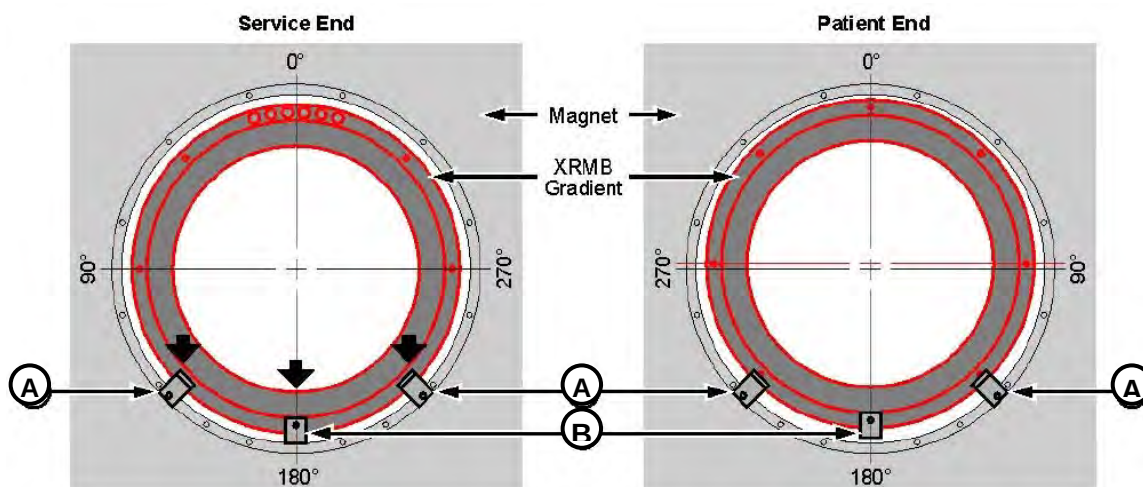

Figure 55 – Installing the Lower Wedges
- S. Apply red loctite (#271) to 135° and 225° hole in the patient-end magnet flange. Attach the 135° and 225° wedge (5154485) to the magnet flange using 1 (one) M10x30 brass bolt (5110638-64) and 2 (two) G10 flat washers (5146169). Tighten the brass screws firmly to secure the wedges. **(Fig 55, A)**
- T. Apply red loctite (#271) to 180° hole in XRMB coil. Attach the 180° wedge (5155280) to the magnet flange using 1 (one) M10x30 brass bolt (5110638-64) and 1 (one) G10 flat washers (5146169). Tighten the brass screws firmly to secure the wedge. **(Fig 55, B)**